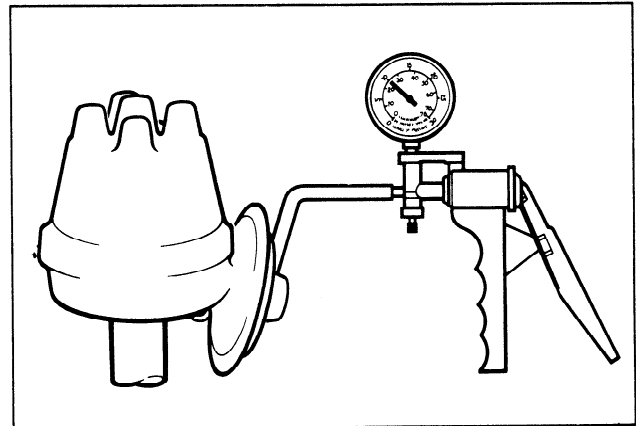

FIG. 8 Vacuum Pump Connected to Distributor
1. Connect pump directly to distributor (Figure 8).